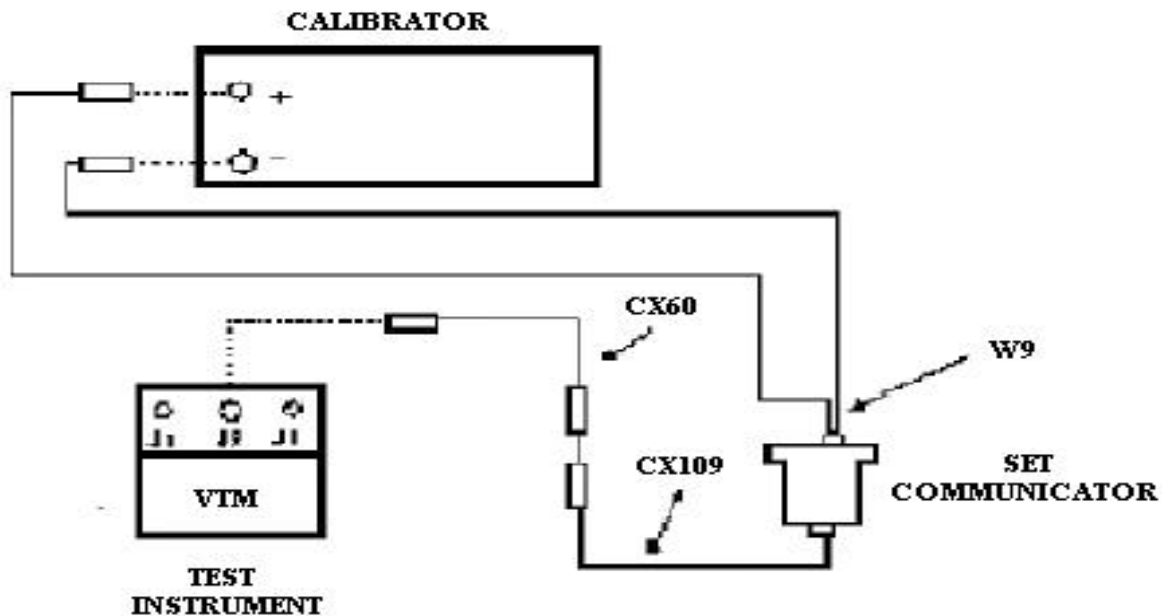

Figure 10. Dc and ac current - equipment setup .
- (1) Connect equipment as shown in figure 10.
(2) Press and release **STEP** key on SC. SC will display: